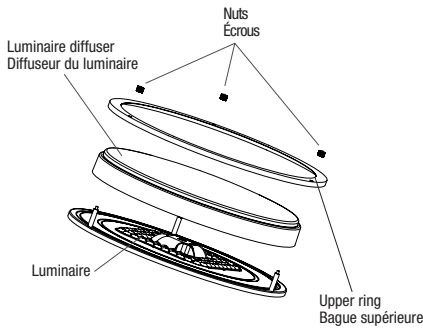

Fig. 1b
1. Unscrew the three nuts above the luminaire diffuser as shown in the Fig. 1b.